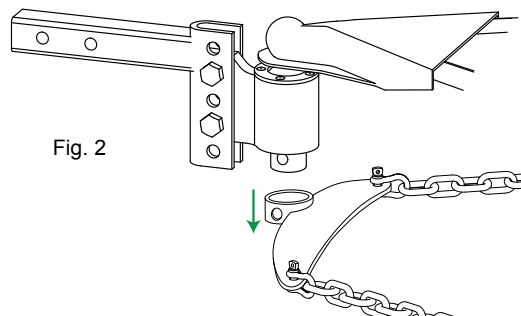

Fig. 2
5. Remove the Sway Control Plate — you can leave the chains and shackles attached to it (fig. 2).